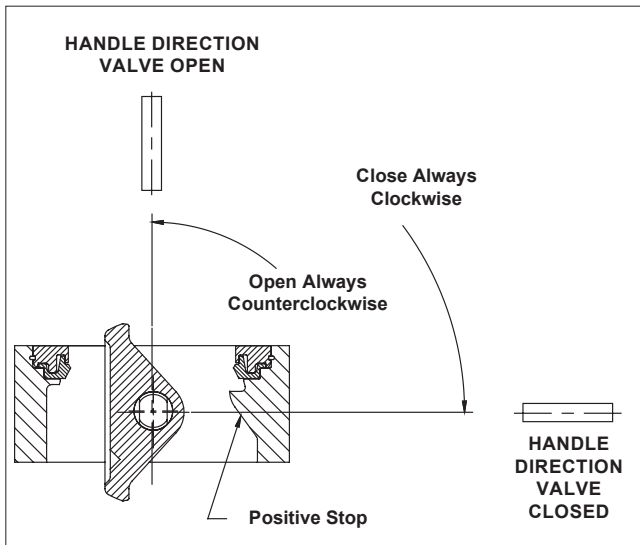

Figure 1. Offset Shaft Operation
One of the design features of the Wafer-Sphere valve that is responsible for its superior performance is the valve's offset shaft design. The shaft is offset in two planes: (1) away from the valve disc centerline and (2) behind the disc sealing plane (See Figure 1). Offset shaft design makes the rotating disc "cam" back and away from the seat, completely eliminating the usual wear points at the top and bottom of the seat. Because the disc rotates off the seat in an eccentric arc, it operates in one quadrant only (See Figure 1).
To prevent seat damage from over-travel of the disc beyond the closed position (usually during field mounting of a handle or actuator), a "positive stop" feature has been designed into the Wafer-Sphere butterfly valve. The "positive stop" feature also makes it possible to adjust the actuator travel stops in-line. The location of this feature is shown in (Figure 1).
4. Before installing a closed valve in the pipeline, be sure that the handle or actuator is attached so that a counter-clockwise rotation, viewed from above, opens the valve (**See Figure 1**). Fully close the valve again before installing in the pipeline.